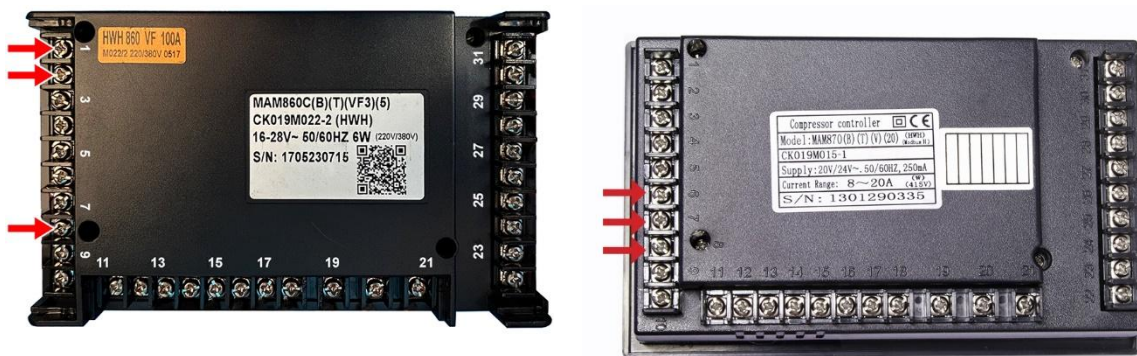

Figure D-1 Rear View of MAM-860 (Left) and MAM-870 (Right) Controllers
- Locate terminals 1, 2 and 8 on the rear of each MAM-860 Controller. Also, locate terminals 6, 7 and 8 on each MAM-870 Controller, if any. Refer to Figure D-1.